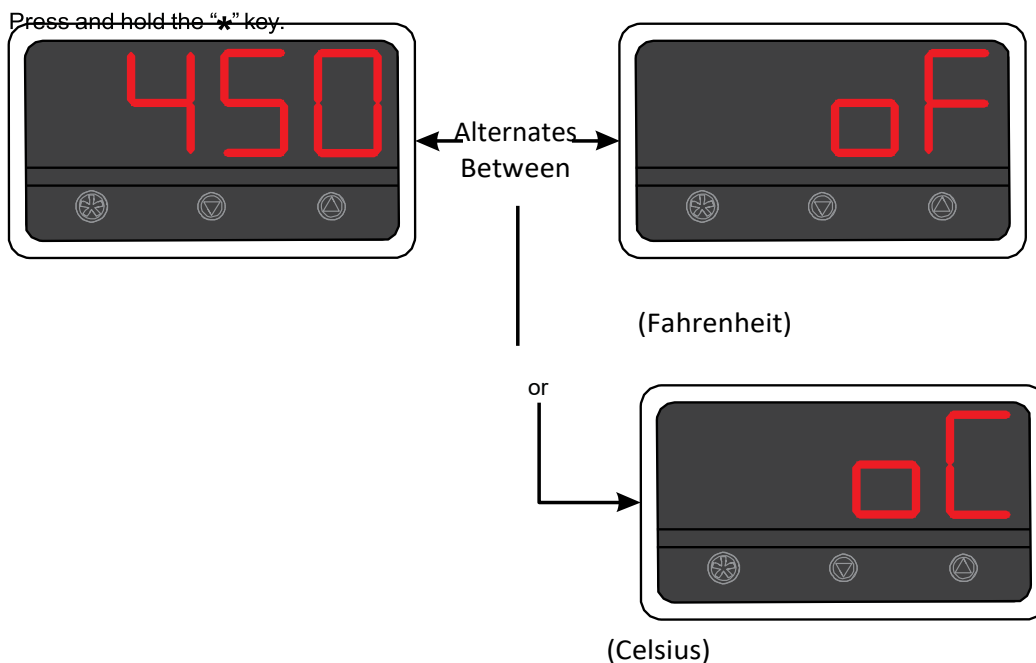

Figure 3-12: Displaying the Set Point
To display the set point, push and hold in the "\*" button. The display (see Figure 3-12: Displaying the Set Point) will alternate between the set point temperature and the temperature scale (0°C for Celsius and 0°F for Fahrenheit). To change the set point, push and hold in the "\*" button and then press the "▲" or "▼" keys to increase or decrease the setting. Release the buttons when done. Only make small increment changes to the set point until the desired closure is achieved. Be sure to allow five to ten minutes for the heaters to reach their optimum level before sealing bags.
- Turn **HEATER ON/OFF** switch to the **ON** position (see "HEATER ON/OFF Switch" on page 2- 5.). Set the temperature controller to the desired set point (see Figure 3-12: Displaying the Set Point). For most common bag types the initial setting should be about 450°F (232°C). Allow a minimum of 15-20 minutes for the machine to warm up. Use the "Trial Run / Bag Closure" technique mentioned below and adjust the temperature as necessary to get a good quality bag seal.